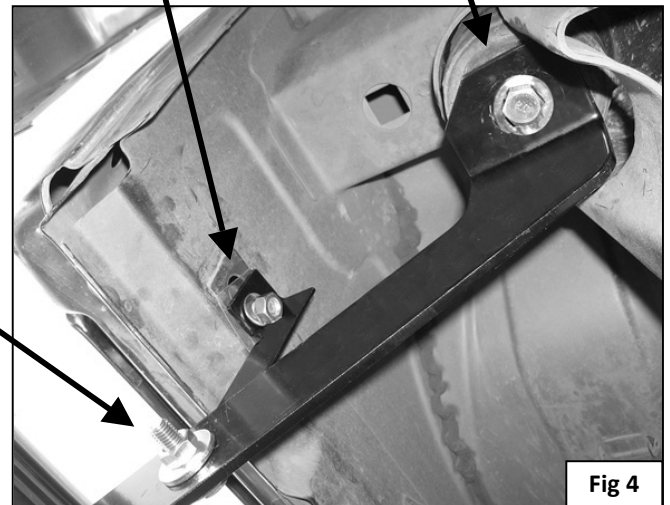

Fig 4
8. Next, move to the rear Mounting Bracket location. Remove the tape covering the hole in the inner rocker panel and install (1) Bolt Plate as described in **Step 5**. Locate the driver side rear Support Bracket (short) and attach it to the Bolt Plate with (1) 10mm Lock Washer, (1) 10mm Flat Washer and (1) 10mm Hex Nut, **(Figure 4)**. **NOTE:** Place Support Bracket against the front facing side of the Mounting Bracket with the bent tab facing towards the **rear** of the vehicle. Repeat **Step 7** to attach the lower end of the Support Bracket to the Mounting Bracket, **(Figure 4)**. Snug but do not tighten hardware at this time.